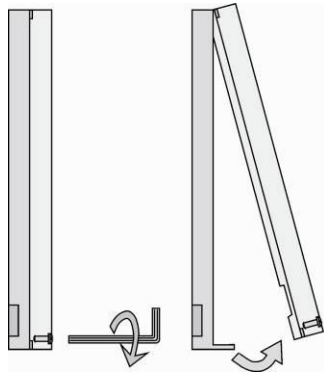

Figure 2.2 Cover Removing
2. Use the hexagonal wrench included in the supply and remove the 2N[®] Helios IP Vario metal cover. Remove the screw in the lower part of the metal cover and fold out the cover as shown in Figure 2.2.